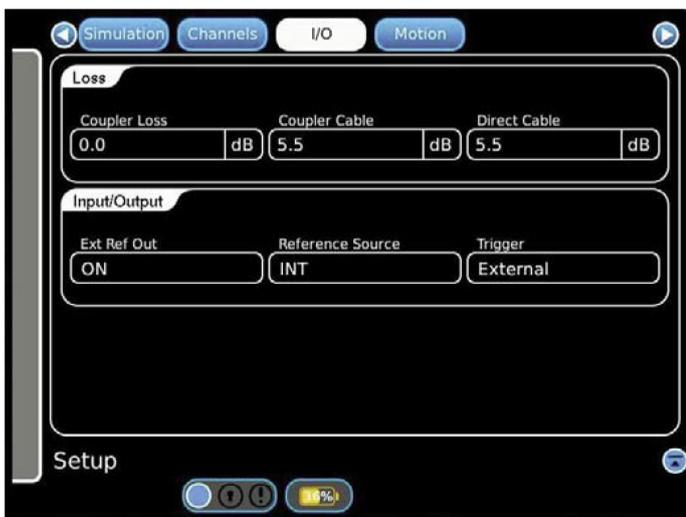

Figure 3
- On GPSG-1000 #1 Menu Bar select Setup. On the Setup screen at the top row select the I/O tab. Set Ext Ref Out to ON, Reference Source to INT, and Trigger to External. See Figure 3.